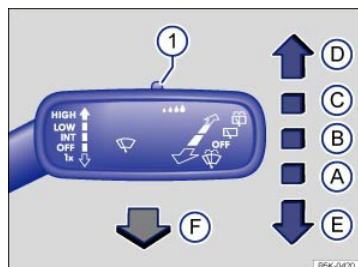
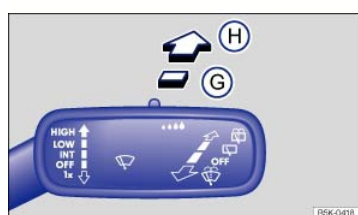

Fig. 95 Operating the front windshield wipers.
Fig. 96 Operating the rear wiper.
Move the lever to the desired position ⇒ Fig. 95 ⇒ ① :
- ① **OFF** Wiper switched off.
- ② **INT** Intermittent wiping for the front windshield. Rain sensor active (if equipped).
- ③ **LOW** Slow wiper speed.
- ④ **HIGH** Fast wiper speed.
- ⑤ **1x** One-tap wiping – brief wiping. Hold the lever down longer to wipe more often.
- ⑥ Pull the lever toward the steering wheel to activate the front windshield washers, then release.
- ⑦ Switch for adjusting the windshield wiper interval settings (vehicles without a rain sensor) or the sensitivity of the rain sensor (vehicles with a rain sensor).
Move the lever to the desired position ⇒ Fig. 96 ⇒ ① :
- ① Intermittent wiping for the rear window. The wiper wipes about every 6 seconds.
- ② Press the lever forward as far as it will go to activate the rear window washers, then release to stay in intermittent wiping mode (position ①). Pull the lever toward the steering wheel to turn the rear wiper off.